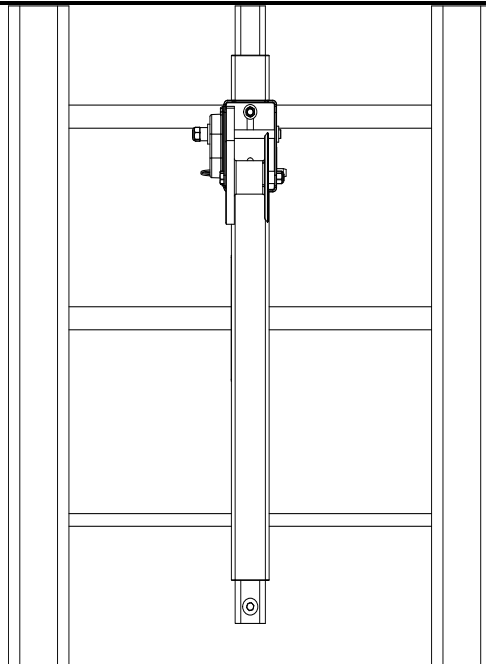
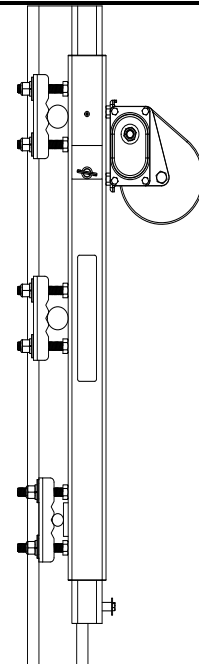

Fig. 3
Fig. 4
4. Adjust the Vertical Extendable Ladder Davit position to center it into the middle of the ladder rungs (see Fig. 3). **NOTE:** *In certain applications where ladder exit space is limited, the ladder can be offset to one side of the ladder. Since this offset mounting imparts a small amount of swing fall, care must be taken to ensure the offset placement does not put users at risk of hitting obstacles in the event of a swing fall.* Once placed, raise Vertical Extendable Davit until ladder rung becomes captured in one of the v-shaped cuts in the rung clamp (see Fig. 4). **NOTE:** *It is preferred that the rungs be captured in the center v-cuts of the rung clamps, but it is not required. Because the spacing of rungs is often variable, not all 3 rungs will be in the same v-cut of the 3 clamps, try and raise or lower the stanchion receptacle and adjust the rung clamps until all three rungs become positioned into one of the v-cuts.*
5. Tighten the nylock nuts onto the stud bolts after verifying that both the flat washer and lock washer are inserted under the nut, and that the stanchion is vertically centered on the ladder. Nuts should be tightened to 25- to 30-ft-lb. **NOTE:** Once torqued, the rung clamp will appear slightly bowed but not flattened or distorted; this is normal. The slight bowing of the clamp once torqued allows the rung clamp to better grip the rung. (see Fig. 4)